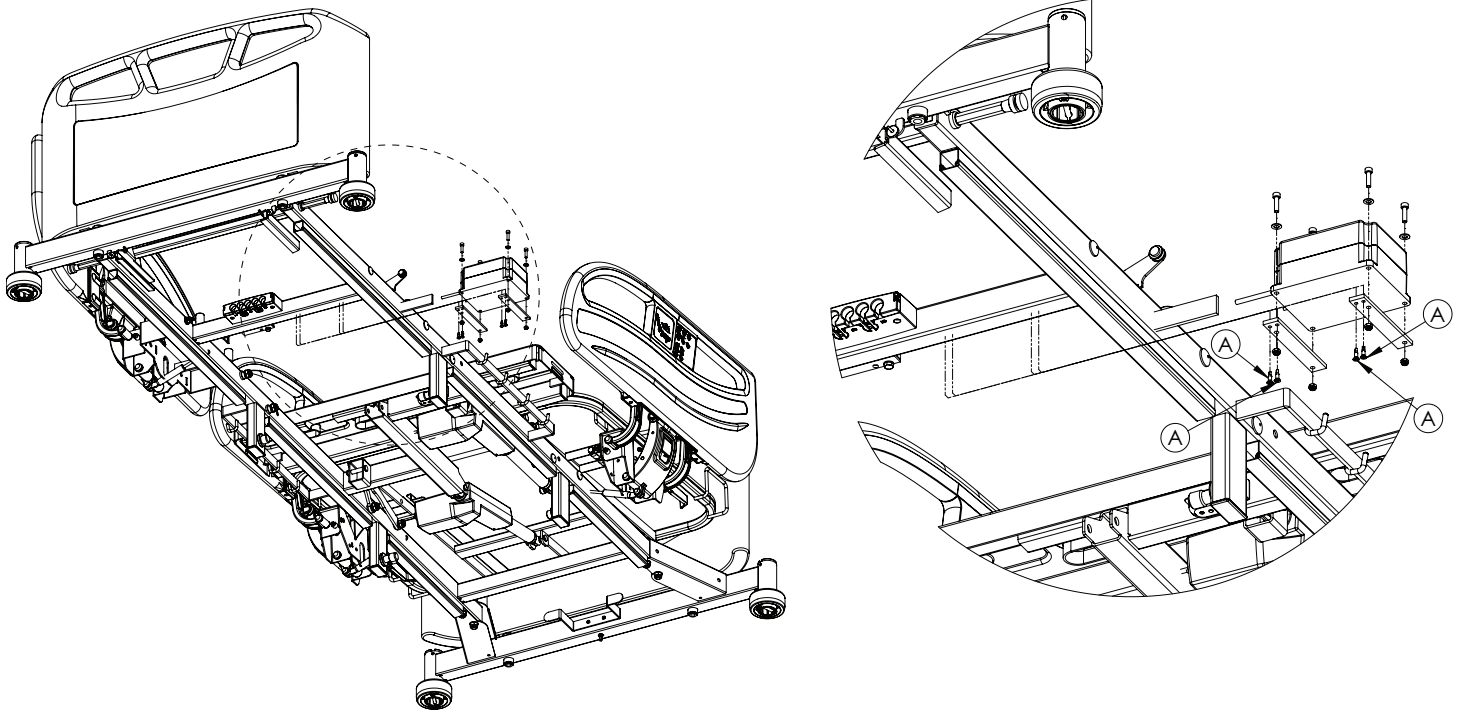

Figure 13 – Battery
6. Using a #2 Phillips screwdriver, unscrew the four screws (A) that secure the battery to the litter frame (Figure 13).